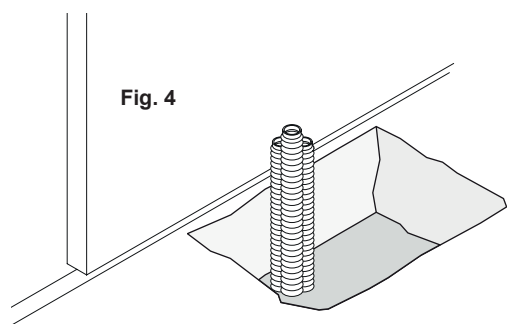

Fig. 4
- 2 - Arrange the pipes for carrying the electric cables (see "electrical system set-up"), leaving the pipes approximately 30/40cm longer (Figure 4).